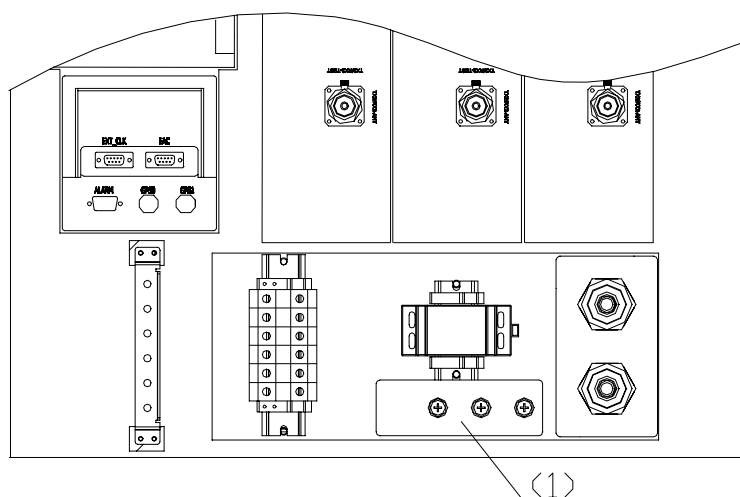

Figure 4-21 Top sectional view of the cabinet
- 2) Connect the other end of the cable to the PE grounding copper bar on the top of the cabinet, as shown in Figure 4-21.